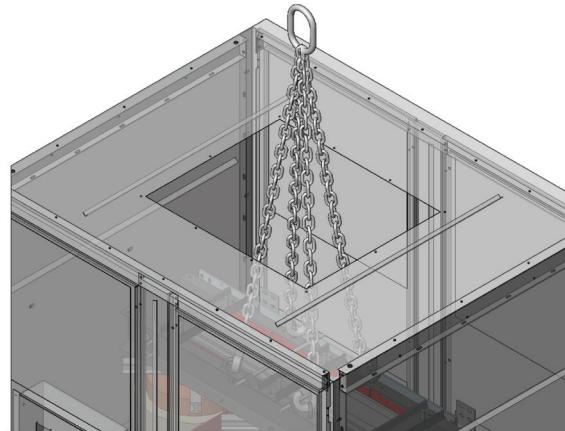

FIGURE 8
8. Lift the power transformer by the core & coil only through cutout in enclosure roof (see figure 8).